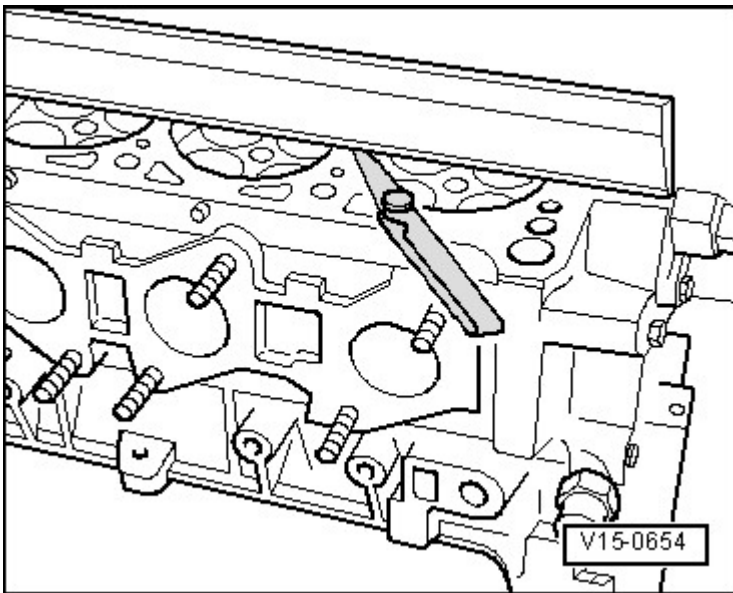

Fig. 7: Checking Cylinder Head For Distortion
- Check for distortion **Fig. 7**